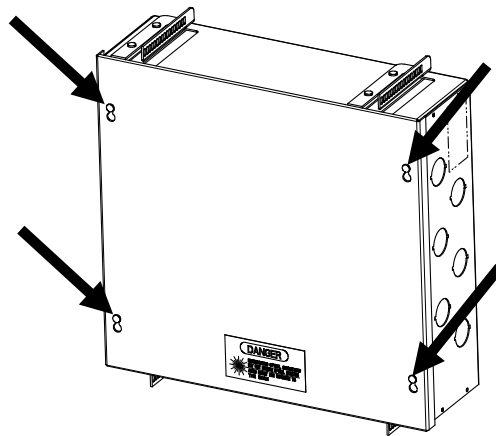

Figure 12
Step 3 – Install Transition Box (TB) cover
2. Place the cover over the loose screw heads with the warning label facing outward and slide into place, tighten the cover screws to secure, as shown in **Figure 12**.